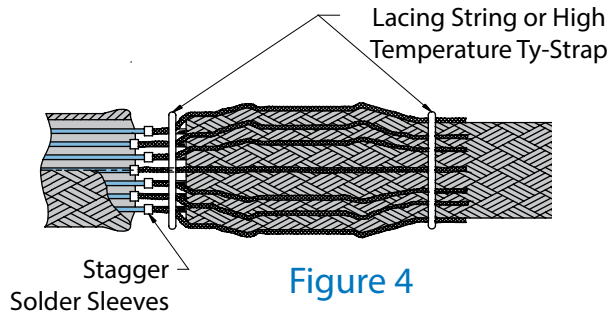
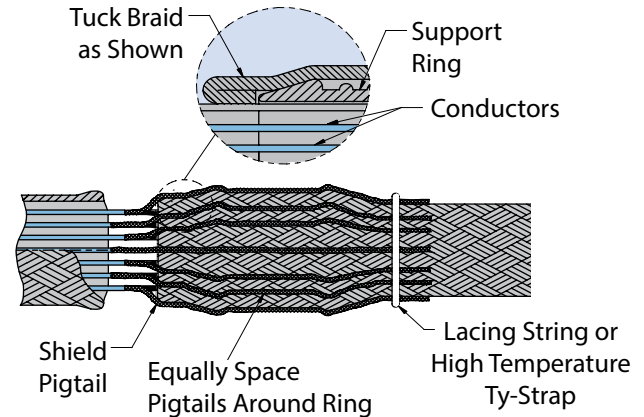

Figure 4
Figure 3
6. For pin connectors, slide the backshell forward, and hand tighten backshell to connector. Then, evenly space shield pigtailed (Figure 3) or solder sleeve pigtailed (Figure 4) around the shield support ring. Cut the pigtailed so that their ends are approximately 1/2" beyond the end of the shield support ring.